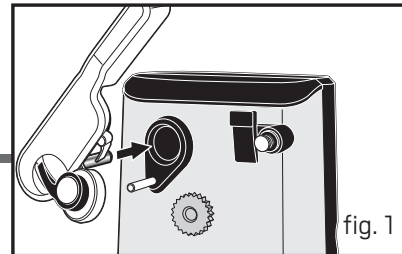

fig. 1
2. Fit the control lever completely in the keyhole of the appliance. See fig. 1.